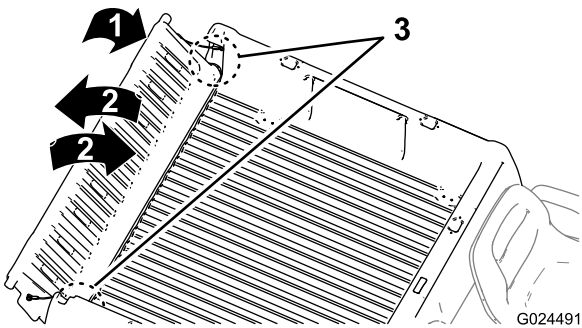

Figure 19
- 2. Rotate the tailgate to approximately 45° position (Figure 19).
3. Using a short, shaking motion to rotate the tailgate back and forth several times (Figure 19).